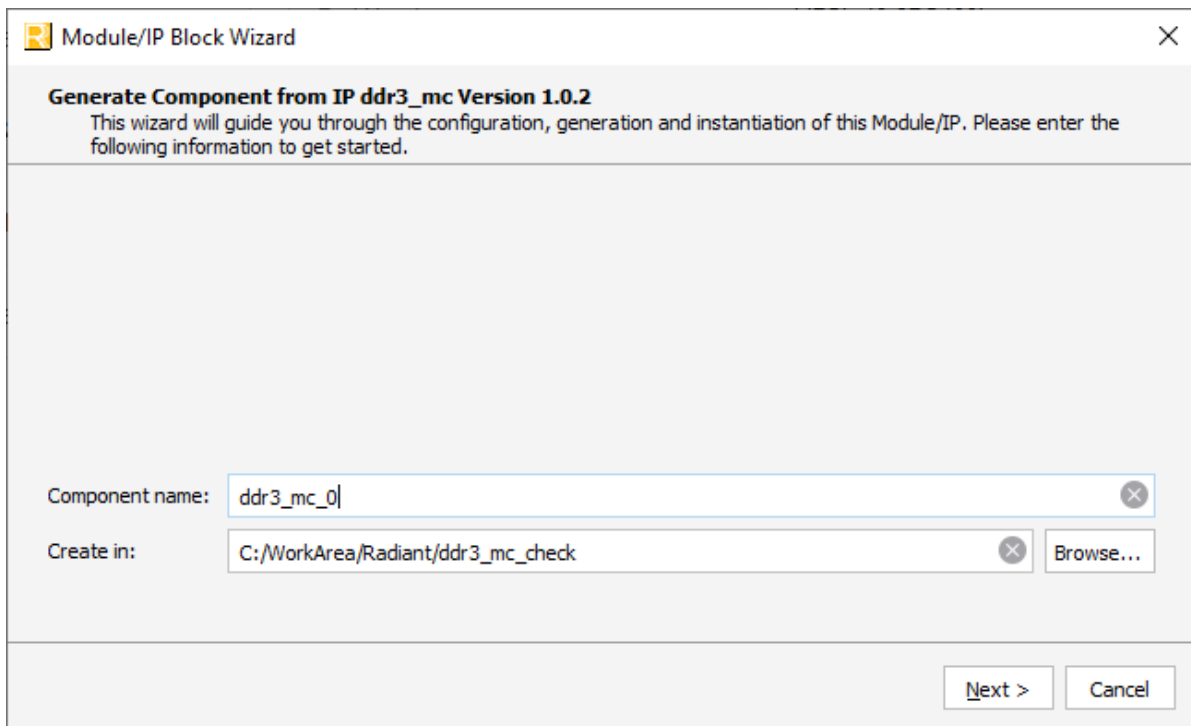

Figure 3.1. Module/IP Block Wizard
2. In the **IP Catalog** tab, double-click on **DDR3_SDRAM_Controller** under **IP, Processors_Controllers_and_Peripherals** category. The **Module/IP Block Wizard** opens as shown in Figure 3.1. Enter values in the **Component name** and the **Create in** fields and click **Next**.
- Click the **Finish** button. All the generated files are placed under the directory paths in the **Create in** and the **Component name** fields shown in Figure 3.1.